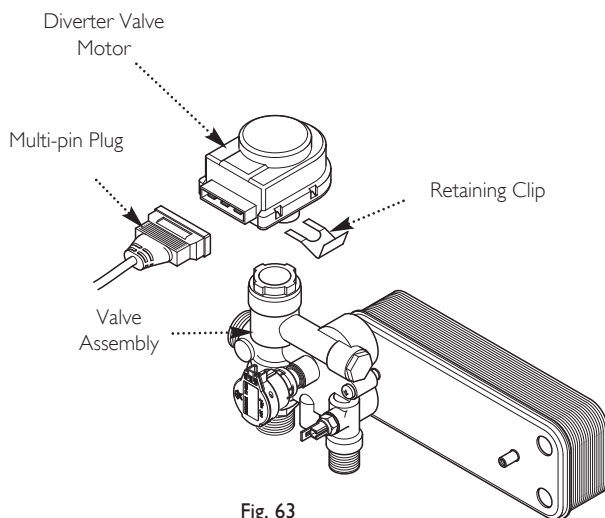

Fig. 63
13.17 Diverter Valve - Motor & Valve Assembly (Fig. 63)